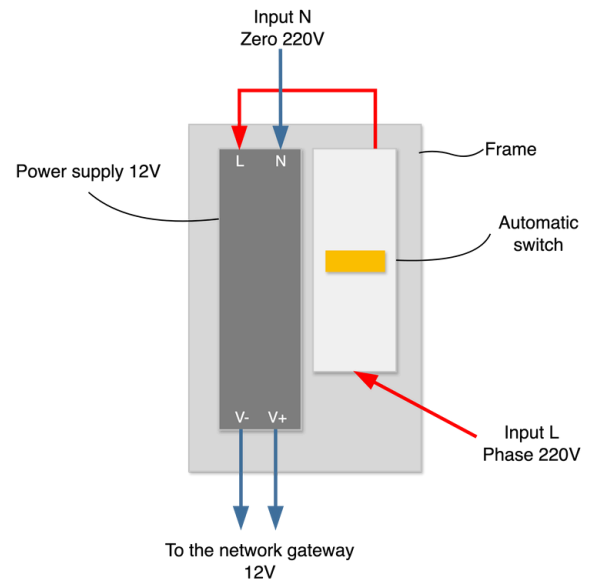

FIG. 7. POWER SUPPLY CONNECTION DIAGRAM
- Refer to Fig. 7 for the connection diagram when using an external power supply unit from the manufacturer.